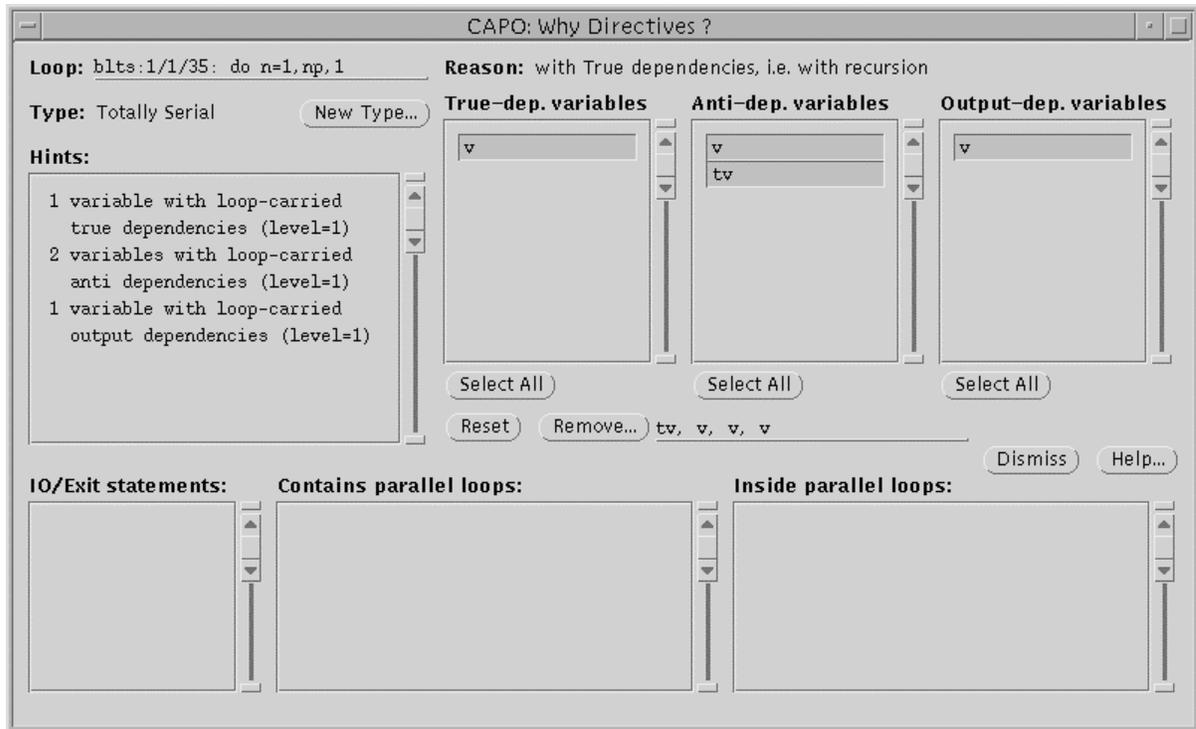

Figure T2-2: The WhyDirectives window for a Totally Serial loop. It can be used to remove false dependences for the selected variables.
- 5. Remove false dependences.** In the Directives browser window, select the **Totally Serial** loop filter and the **All Routines** scope. There are four loops listed under this category. Choose the first loop: `blts:1/1/35: do n=1,np,1` and click the **Why** button. The **WhyDirectives** window as shown in Figure T2-2 will be popped up. As indicated in the window, the serialization of this loop is caused by loop-carried data dependences from two variables: `v` and `tv`. After inspecting the loop, the user realizes that this loop performs calculation for all points on a given hyper-plane ($i+j+k=constant$). Each point on one hyper-plane could be calculated independently, thus in parallel. However, indirect indexing was used to access data elements on the plane and these indices were calculated dynamically and not available at the data dependence analysis stage. Conservative decisions were made to keep these data dependences during the analysis. So, the user can safely remove these *false* dependences to enforce a parallel loop: using either the **DepGraph** window (in CAPTools) or the **WhyDirectives** window here (simpler). With the second method, select variable `v` and `tv` in the three lists (**True**, **Anti** and **Output**), click the **Remove** button and click the **Apply** button to confirm the action. Apply the same procedure to the second loop: `butts:1/1/35: do n=1,np,1`.